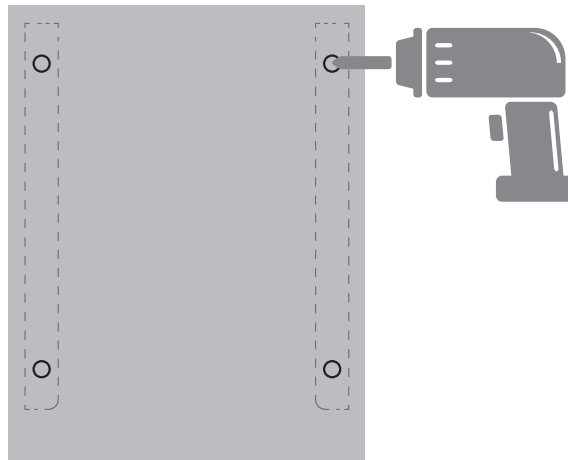

Fig. 5.4.4
3. Drill the mounting holes on the wall with a depth of at least 1.97". (See Fig. 5.4.4)